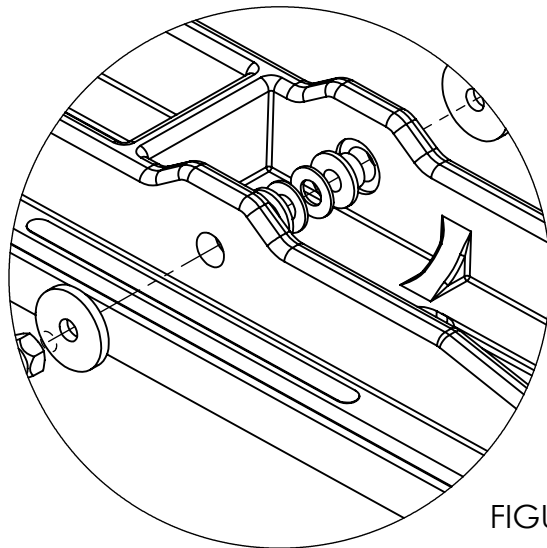

FIGURE 1
4. Place the two spools (top hat shaped) into the inner saddle of the ski and push outward until flush in the saddles, they will fit very tightly. (see Figure 1)